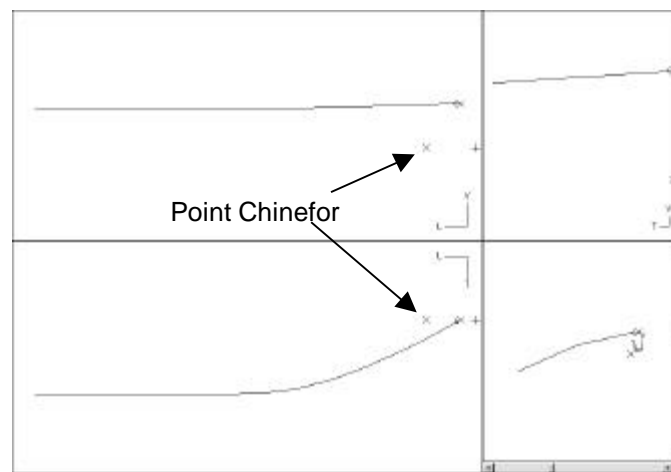

Figure 1-5: Reference point at the forward end of the chine
3. In the *Create Point* dialogue, select the **Free** tab, type the following information, and click **OK**. (See Figure 1-5.)